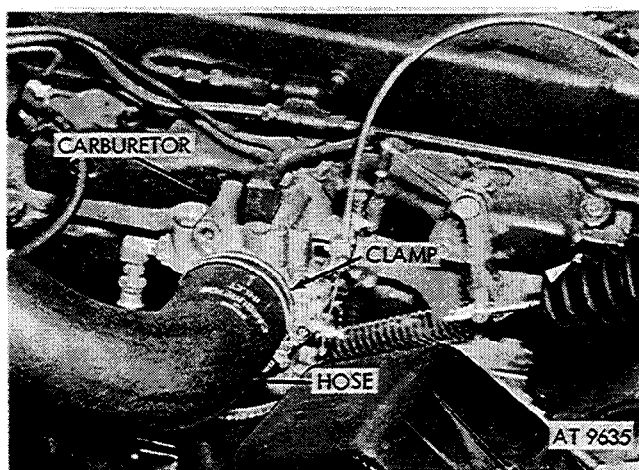

Figure 2-103. Disconnect carburetor hose.
(1) Loosen clamp screw to loosen air intake hose clamp. Pull hose away from carburetor (fig. 2-103).
c. *Adjustment.* Refer to figures 2-103 and 2-105 and proceed as follows:
(1) Remove air cleaner hose at carburetor to view the choke control plate when making adjustment.
(2) Loosen screw at the choke control cable stop at carburetor.
(3) Set choke control knob  $\frac{1}{16}$  inch out from instrument panel.
(4) Adjust choke control cable so the choke control plate in the carburetor is in fully open position.
(5) Secure cable and install air cleaner hose.